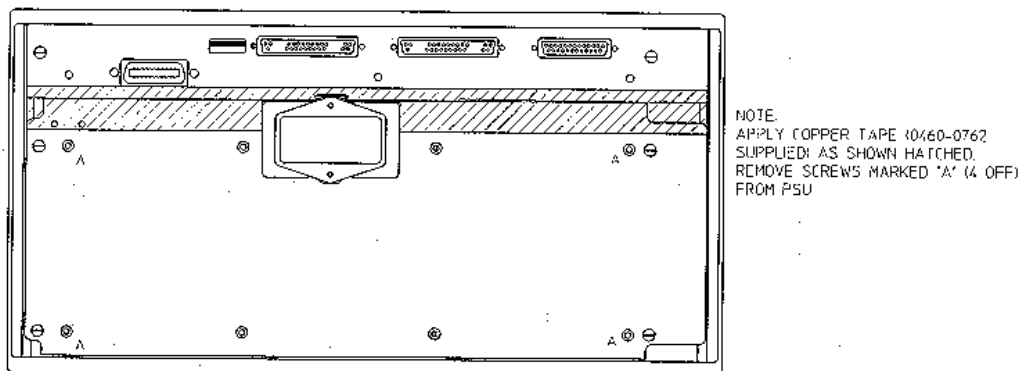

Figure 23
13. Use the copper adhesive tape supplied to seal the join between the Processor assembly connector panel and the rear sub-panel of the PSU module as shown hatched in FIG 23. Note that the tape will require to be cut/shaped with scissors to accommodate the HP-IB connector on the Processor assembly and the mains input to the PSU module..
14. Remove the screws from positions A in FIG 23, previously fitted to the PSU module.